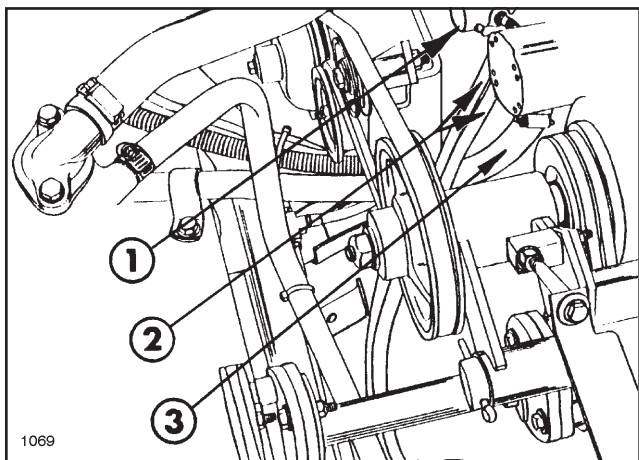

FIG. 3
8. At the Hydraulic Control Valve, loosen and disconnect the fittings for two R.H. Dump Cylinder Hoses. Reroute these hoses to the underside of the Pump Suction Hose. Reconnect and tighten fittings. Secure all hoses and cables with tie straps to ensure they do not rub against pump pulleys and belts. See FIG. 3.